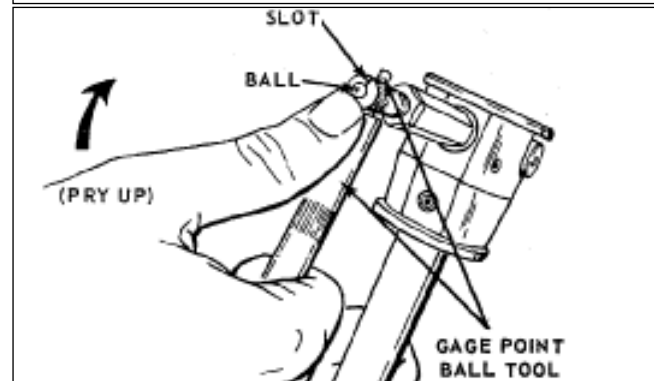

FIGURE 7
1. Hold thumb over Ball and pry it out with Gage Point Ball Tool (see Figure 7).